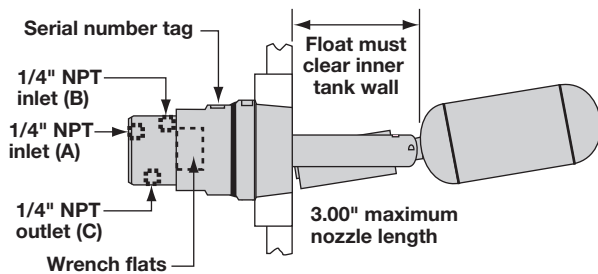

Figure 1
1. Ensure that the length and inside diameter of the mounting nozzle are sized correctly to allow for switch actuation at design levels. Refer to Figure 1.
3. Using a pipe wrench, rotate the unit clockwise until threads are tight in mounting. Ensure that the serial number plate is on top. See Figure 1.
2. Connect the inlet air line to the  $\frac{1}{4}$ " NPT connection for either air inlet A or air inlet B, depending on the valve action desired (refer to Figure 3). Inlet air pressure should be between 0–200 psig. Refer to Figure 1 for location of air inlets.
3. Connect outlet air line to the  $\frac{1}{4}$ " NPT connection on the bottom of the valve. This air outlet is designated with a "C". Refer to Figure 1 for location.
1. Use only the 2" wrench flats to install or remove the unit. Refer to Figure 1. Use of any other surface could change the calibration. The valve body is calibrated at the factory and locked in place.